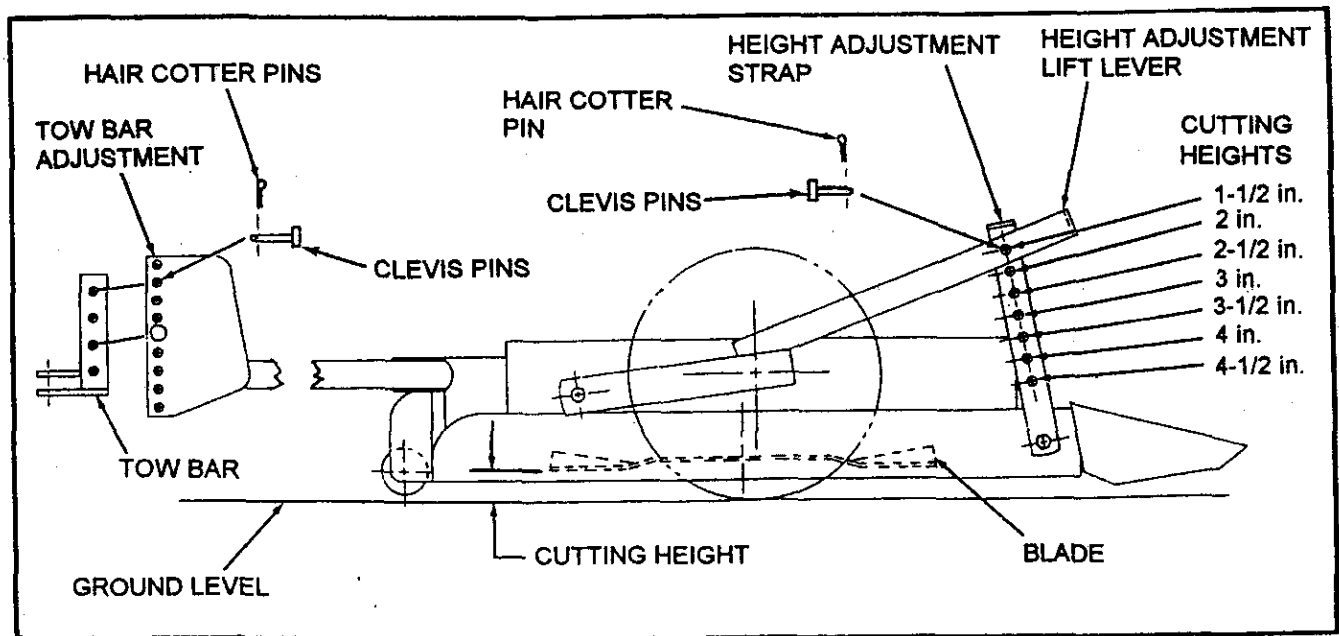

FIG. 4
- To adjust the mower cutting height remove hair cotter pin from clevis pin in the Height Adjustment Strap. (See Fig. 4)
- Remove two hair cotter pins from two clevis pins in the tow bar adjustment.. (See Fig. 4)